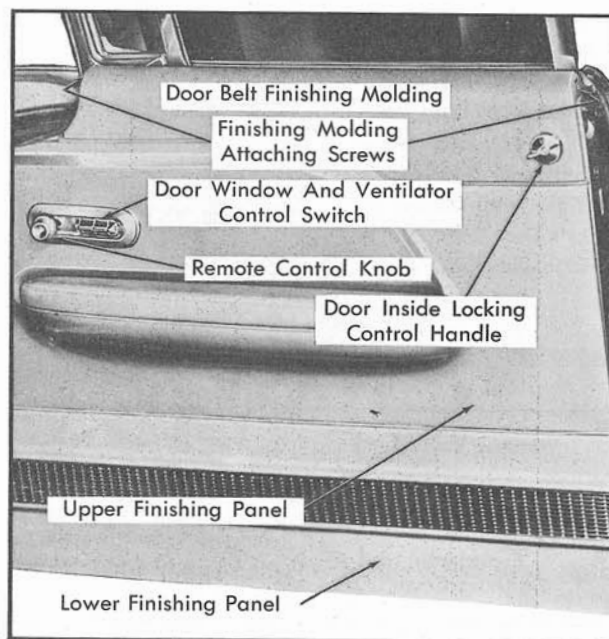

Fig. 17-12 Front Door Inside Trim and Hardware
2. Remove screws securing molding to door and carefully lift molding upward over retaining clips and remove from door, Fig. 17-12.
(10) Door Trim Finishing Panel Removal and Installation, Front or Rear